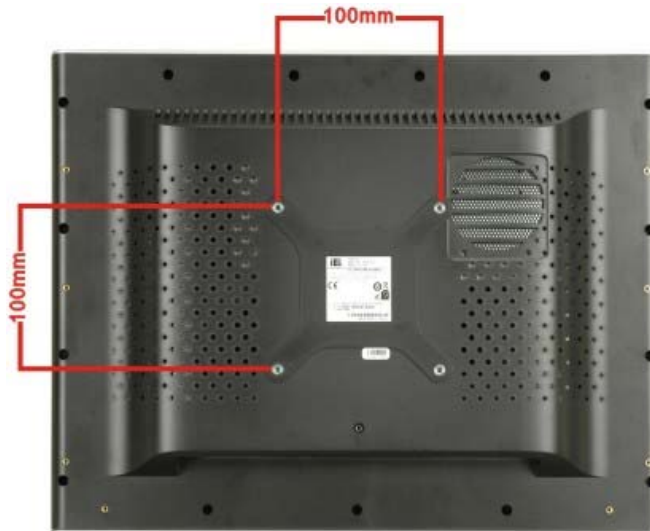

Figure 4-17: Arm Mounting Retention Screw Holes
Step 3: Align the retention screw holes on the mounting arm interface with those in the flat panel PC. The AFL-15A-N270 arm mount retention screw holes are shown in **Figure 4-17**.